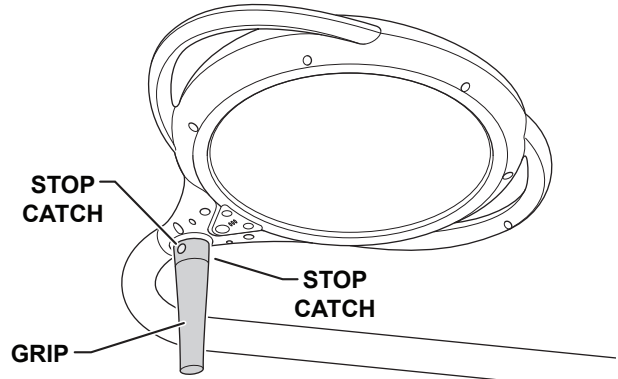

Figure 9. Sterilizable Grip
1. Press the stop catches at the top of the grip to remove (Figure 9).